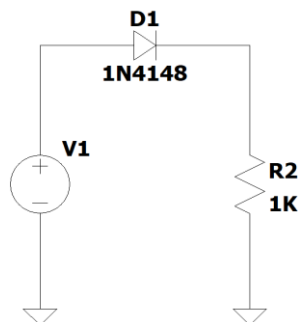

Figure 1.2 Reverse Recovery Time
1. Connect the Circuit as shown in Figure 1.2.